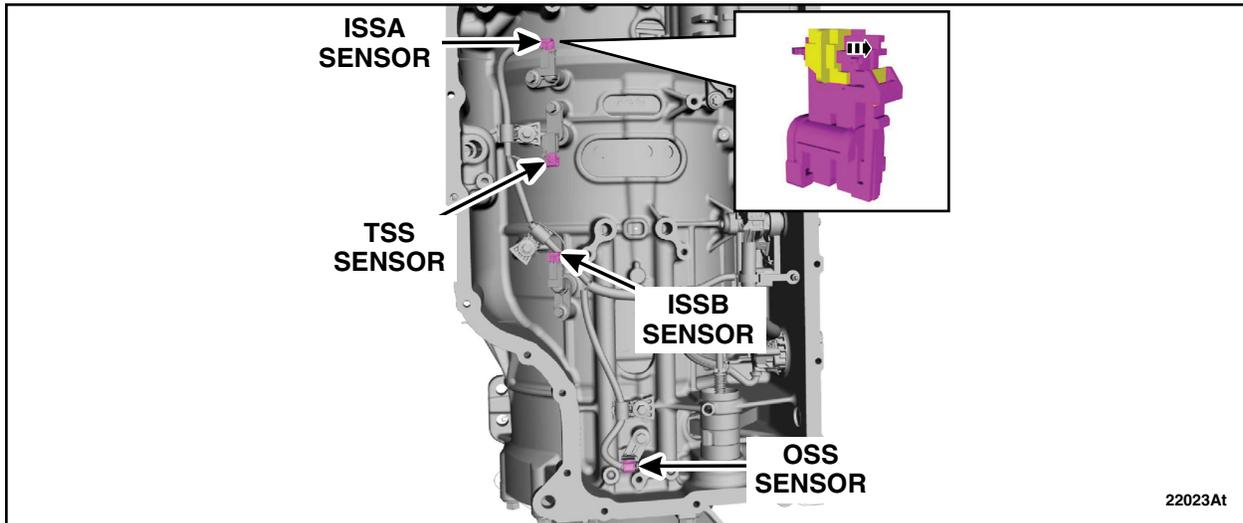

FIGURE 67
76. Connect and lock the ISSA, TSS, ISSB, and OSS speed sensors. See Figure 67.